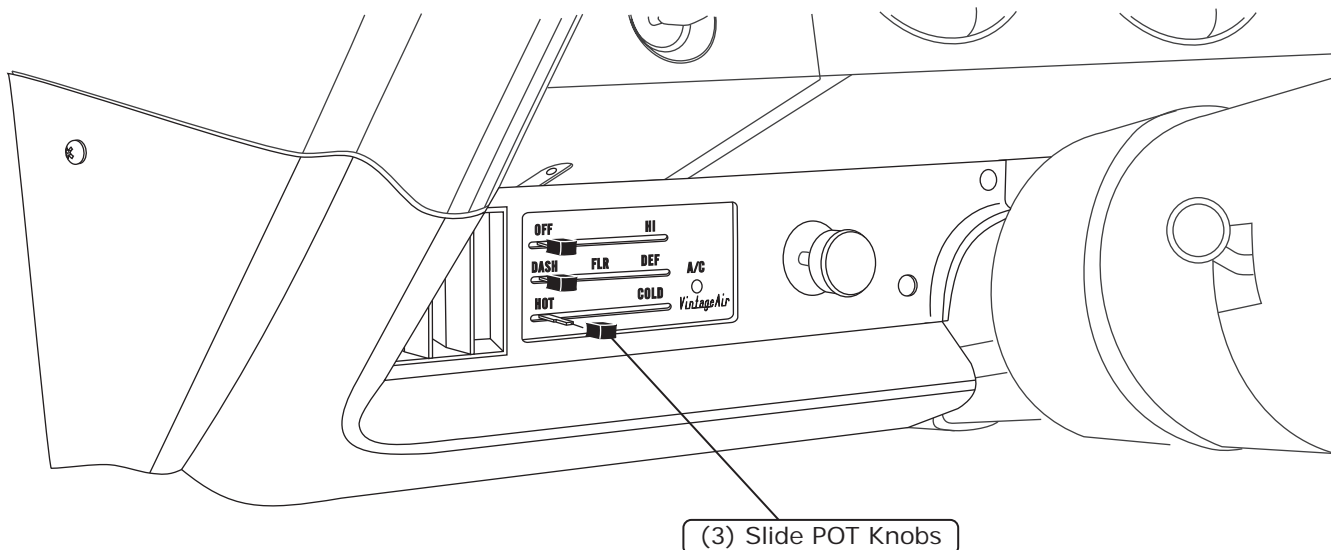

Figure 1
1. Install the (3) knobs as shown in Figure 1, below.